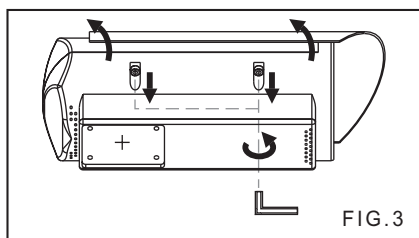
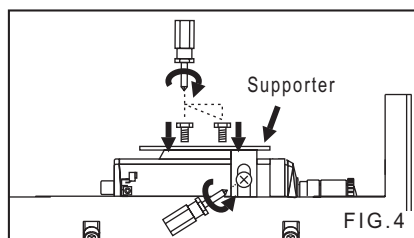

FIG.3
FIG.4
2. Secondly, take out the housing and open the top cover with hexagon screw driver (FIG.3). Loosen the screws on both sides of the supporter first, use provided 1/4"-20UNC screws (black-2pcs) to fix the camera on the supporter temporarily (FIG.4). Plug and fix the power cable of camera to the terminal (FIG.5).